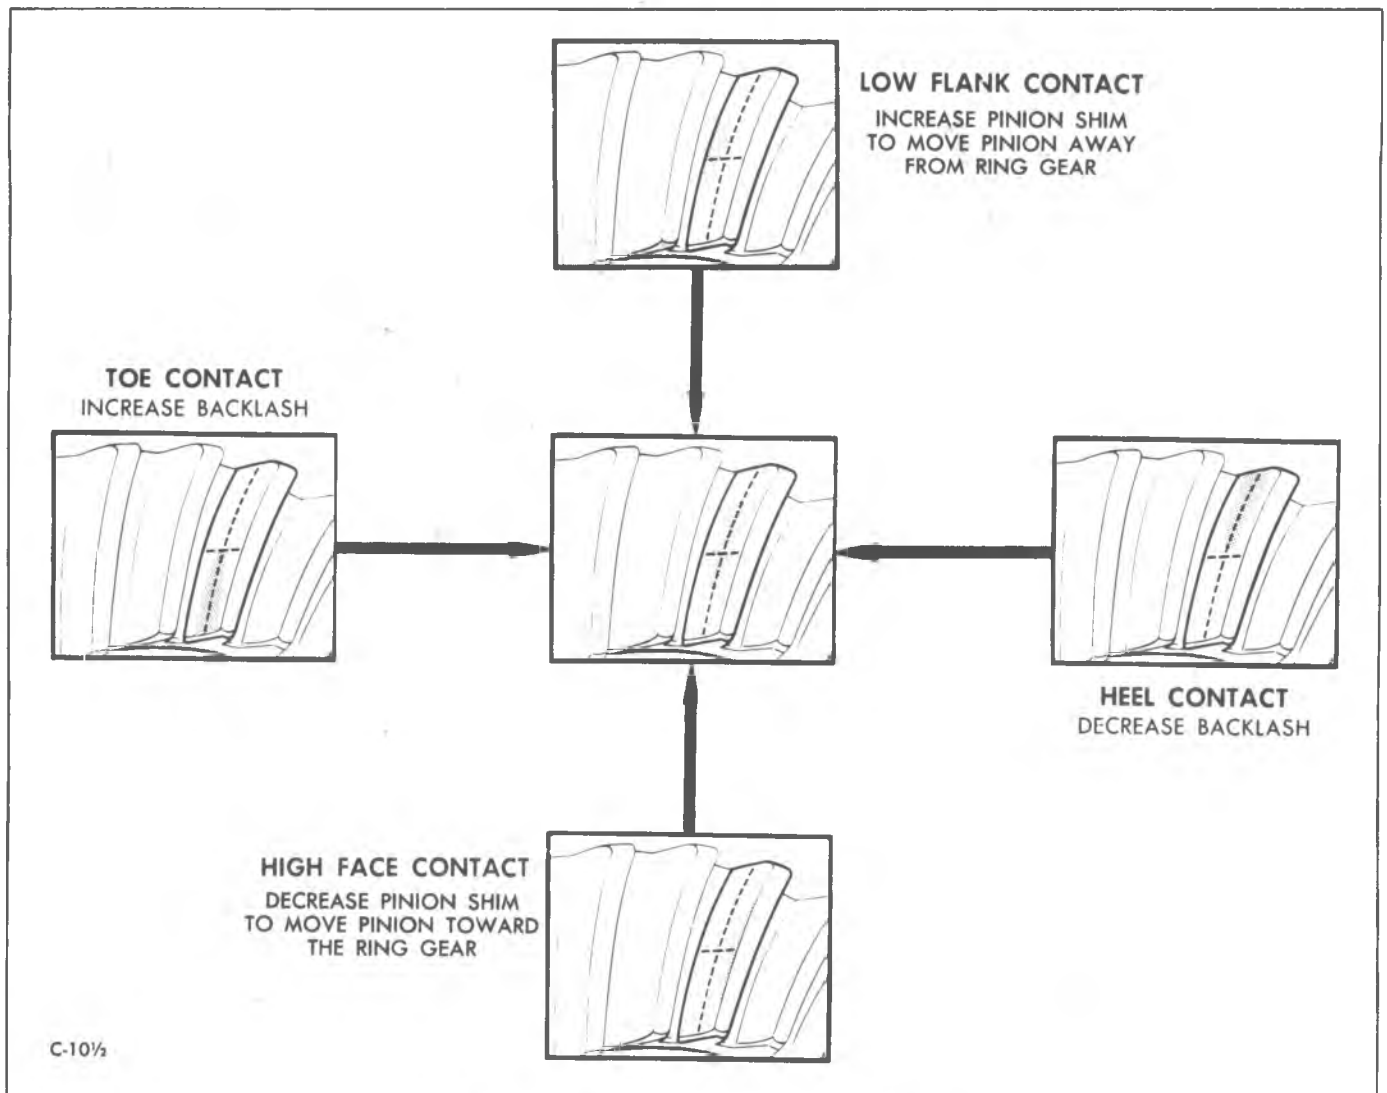

Fig. 18E—Gear Teeth Contact Pattern Check
5. Observe pattern on ring gear teeth and compare with figure 18E. Make adjustments as outlined below.
1. The pinion depth shim may be replaced as necessary to place the drive pinion at the correct depth. See figure 18E.